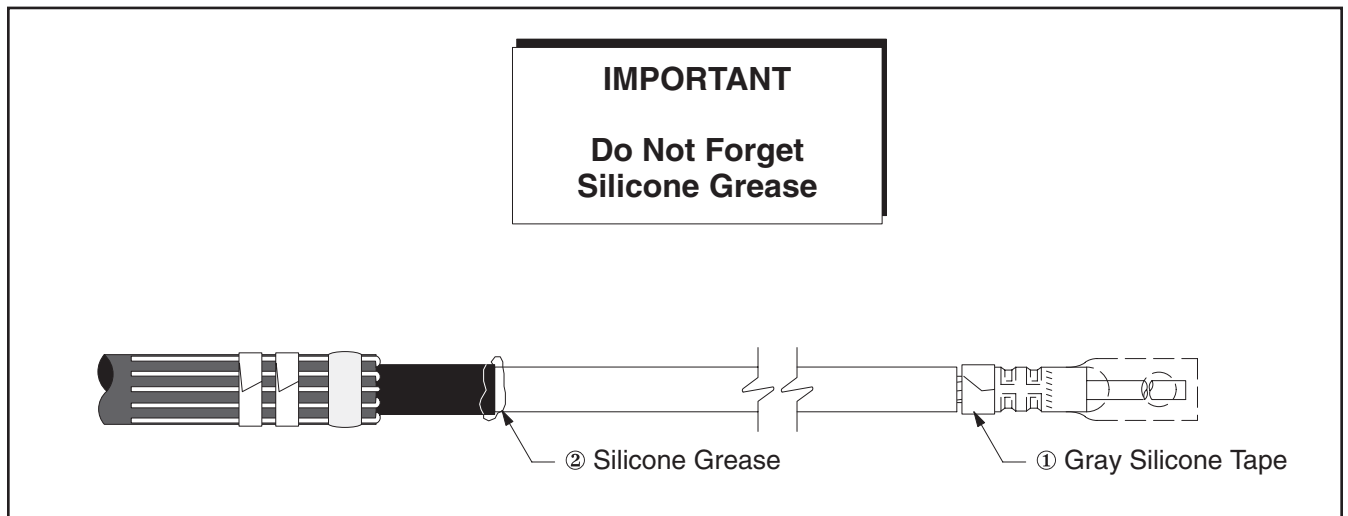

Figure 4
- 4.1 **IMPORTANT:** If a 3M-designed stem connector is not used, a track resistant moisture seal must be made between termination insulator and lug/connector using gray Scotch® No. Silicone Rubber Electrical Tape 70 strip (contained in kit). After removing the two clear release liners, wrap a band of silicone tape around the base of the terminal lug ① (Figure 4).
- 4.2 Cover the edge of the semi-con insulation shield with a liberal coating of Silicone Grease ② (Figure 4). **On this product the Silicone Grease does not serve as a lubricant. It must be used to fill the step at the semi-con cutoff.**